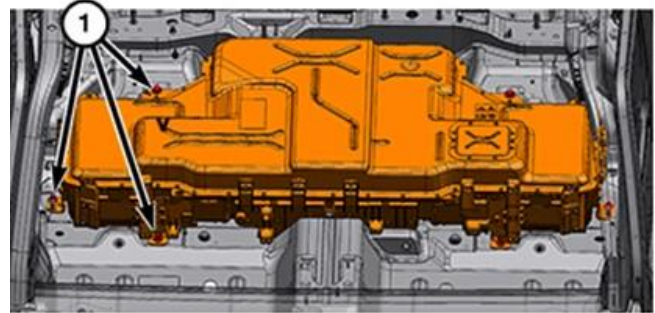

Figure 26 – HV Battery Bolts
- 40. Remove the bolts (1) securing the HV battery to the vehicle (Figure 26).
49. Install the HV battery pack bolts (1) and tighten to (Figure 26):